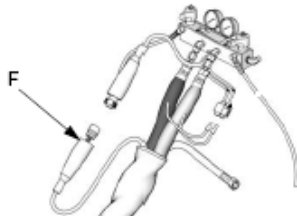

Fig. 8. Heated Hose
3. Disconnect FTS cable (F) at Reactor, Fig. 8.